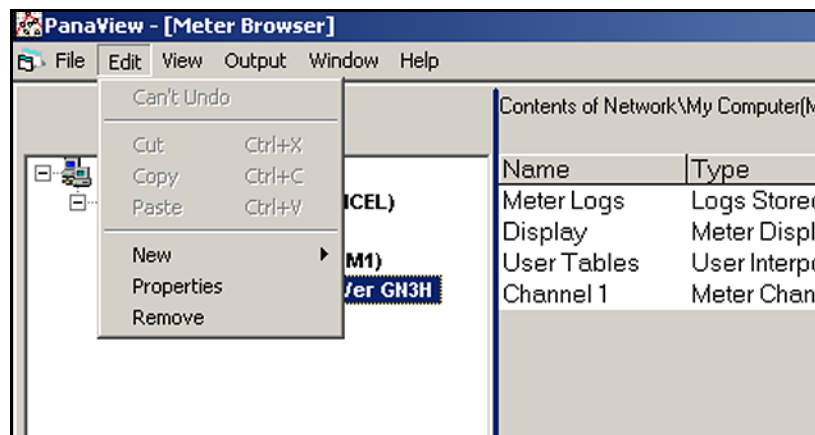

Figure 24: Edit Menu - Properties Option
2. Open the "Edit" menu and select the "Properties" option, as shown in *Figure 24* below.